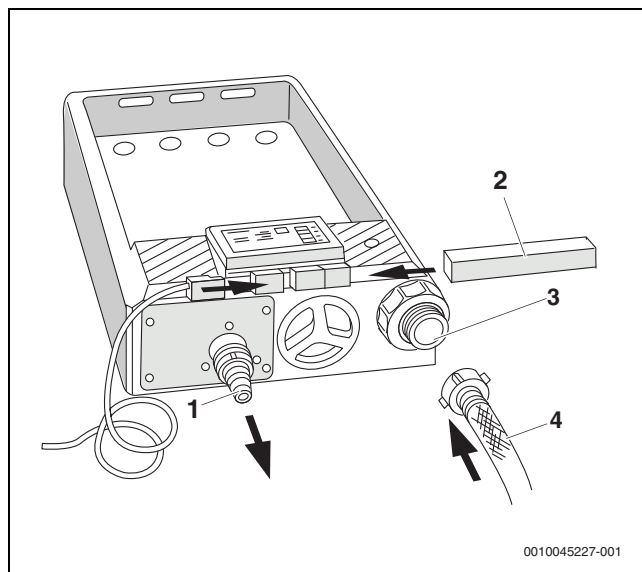
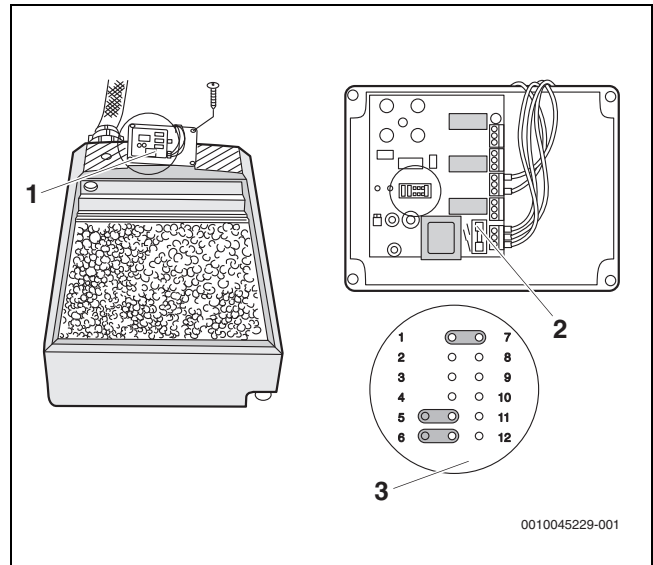

Fig. 4 Connect the EKO inlet hose or AKO drain hose
Fig. 6 Jumper settings
- ▶ Connect inlet hose (→ Figure 4, [4]) to the EKO condensate neutraliser (→ Figure 4, [3]).
- ▶ Fasten the drain hose (accessory) to the AKO condensate neutraliser (→ Figure 4, [1]) with a hose clamp and route it to the drain.
- ▶ Push the cover rail (→ Figure 4, [2]) over the plug and screw with self-tapping screw in the middle.
- ▶ Unscrew 4 screws from the control unit (→ Figure 4, [1]), remove the control unit and turn through 180° (→ Figure 6).
- ▶ Check the fuse in the control unit (→ Figure 6, page 6).